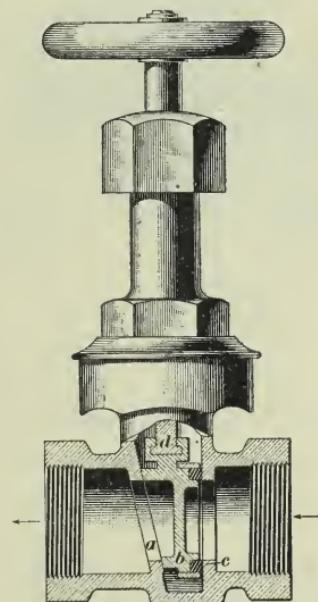

FIG. 73
**113.** The Jenkins gate valve, shown in Fig. 73, has a wedge-shaped body. An inclined guide *a* at one end forces the gate, or disk, *b* to its seat *c* when the spindle is screwed down tight. The disk is loose on the spindle *d*, being made with a recess; a removable ring is secured to the disk, the same as is done in globe and angle valves. This is a single-gate valve, bearing pressure only on one side.